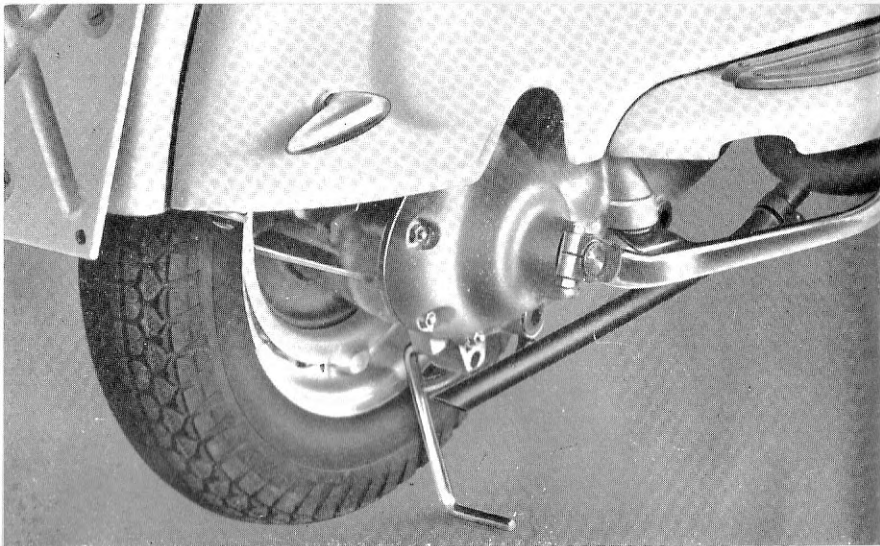

Fig. 8.
- fit the wheel lift stand, supplied in Kit, to the lug on crank-case (see Fig. 8);